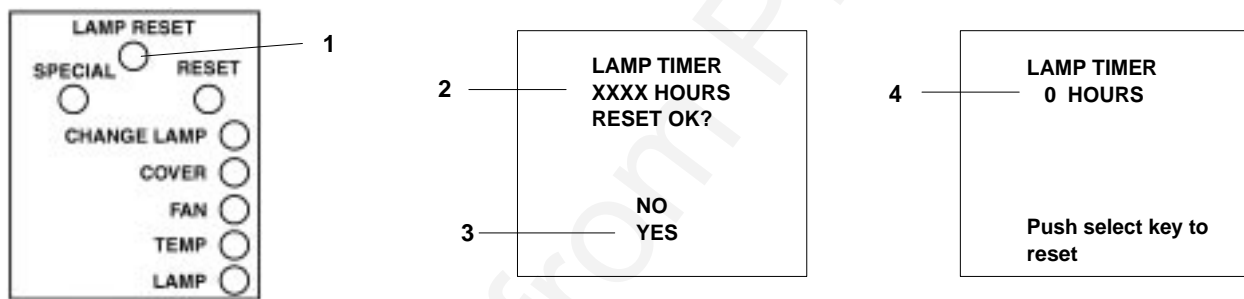

Figure 6-1. Projector Control Panel
The LAMP RESET button is a recessed button. Use a paper clip or pen point to press the LAMP RESET button (1) on the projector control panel (Figure 6-1) and the current lamp operating hours (2) will display. *The lamp reset screens will time-out within 5–10 seconds if no selection is made.*